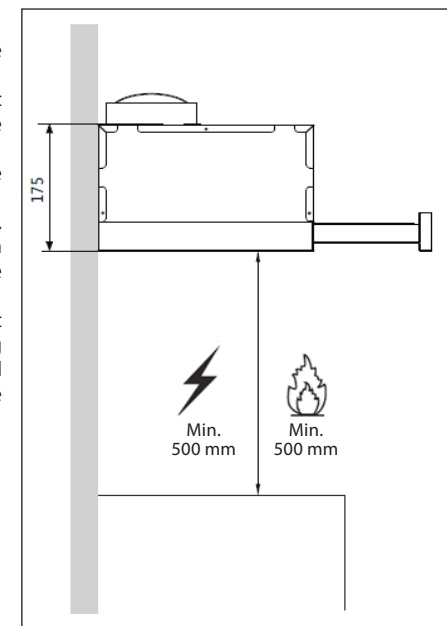

Fig. 4
2. Mark the required installation height (500 mm for electric and 500 mm for gas cooking plates) on the wall behind the cooker or the cooking plate (Fig. 4).